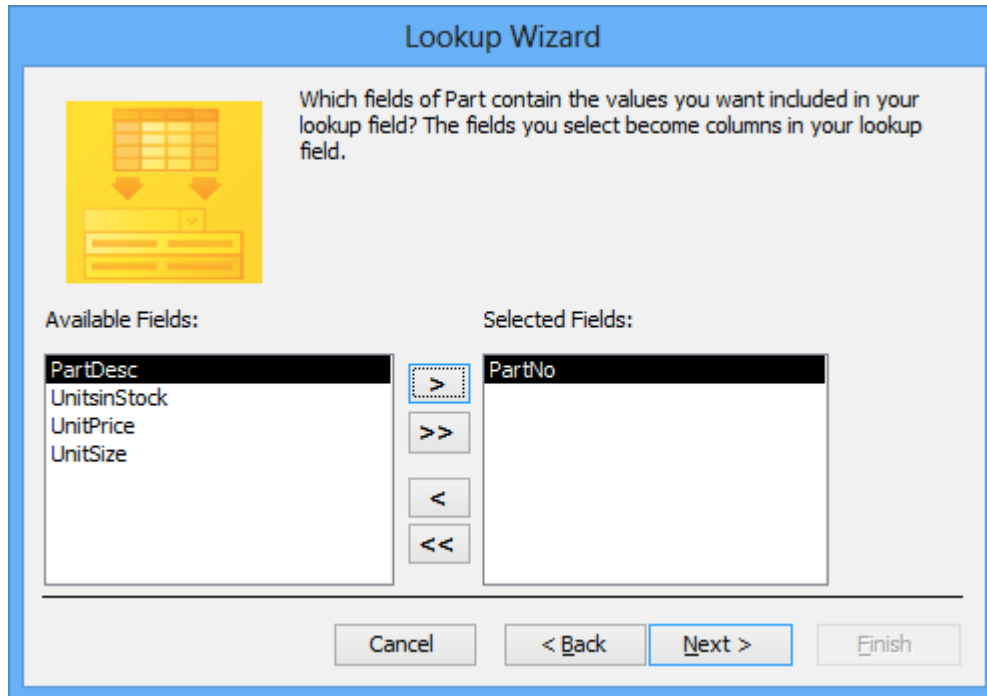

Figure 25: Choosing Fields in the Lookup Wizard
3. **Choose the Lookup Field:** The wizard window lets you choose the field from the *Part* table to appear as a list (Figure 25). Select the *PartNo* field and click the > button to bring it to the right side. Click **Next** to continue.